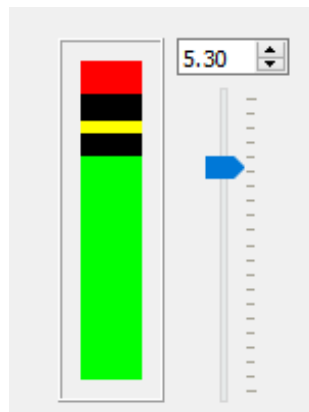

Figure 124 – Recording overloading input
- “**Record**” starts the recording process, coloured indicators will appear in the black box (Figure 124) according to the level set by the blue slider or numerical box.